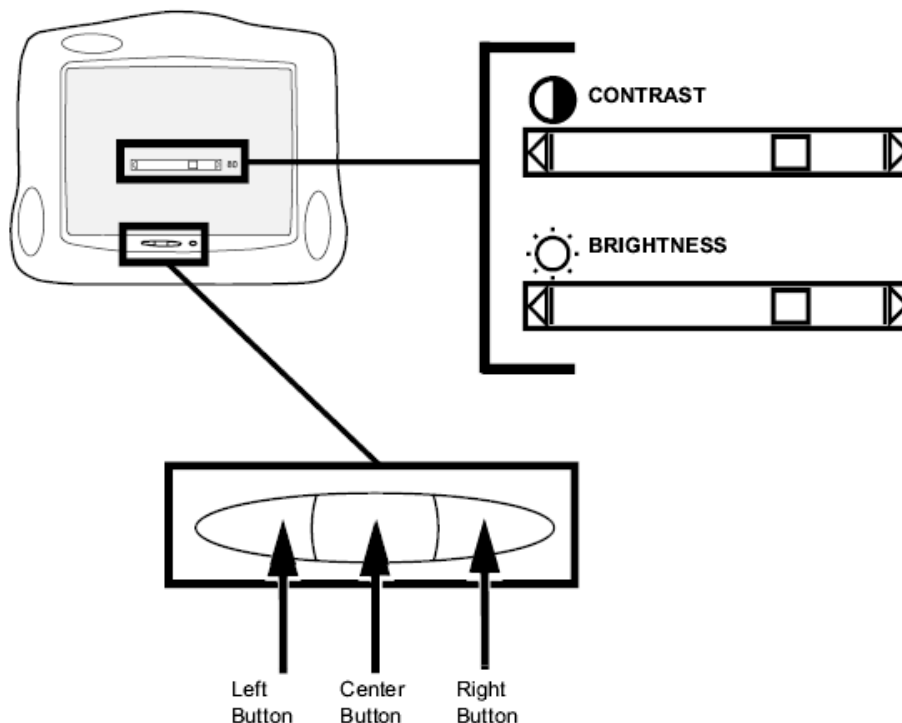

Figure 6-4 17" Monitor Adjustment Controls
The settings that can be adjusted on the Vivid™ 4 17" monitor are the features that affect image quality, namely **Contrast** and **Brightness**. The controls for these settings may be accessed directly from the three adjustment buttons located on the front of the monitor, as shown in Figure 6-4 below. .
- 1) Press the *center* button located on the front of the monitor (refer to Figure 6-4 on page 6-9). The Contrast adjustment bar is displayed.
- 2) Use the other buttons on the front of the monitor (refer to Figure 6-4 on page 6-9), as follows. Press the *left* button to *decrease* the contrast or *right* button to *increase* the contrast. Refer to the recommended settings in Table 6-10 below.